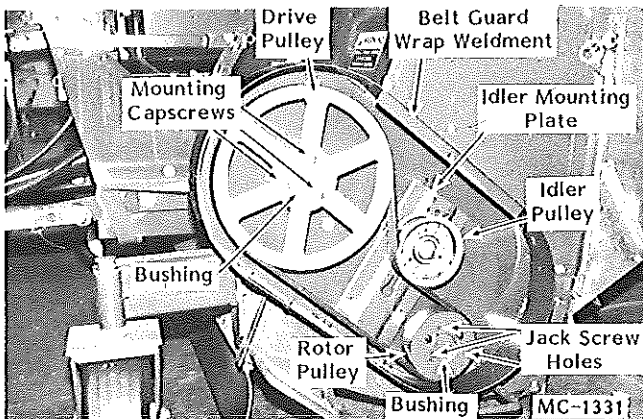

Figure 23a
2. Loosen the idler pulley carriage bolt. (See Figure 23a)